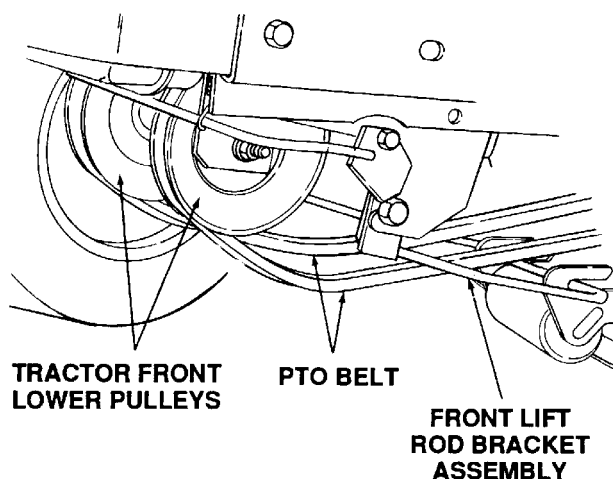

Figure 56
10. Pass the PTO belt downward, inside the tractor frame, until the belt is below the two tractor front lower pulleys and pull the belt clear of the tractor (See Figure 56).